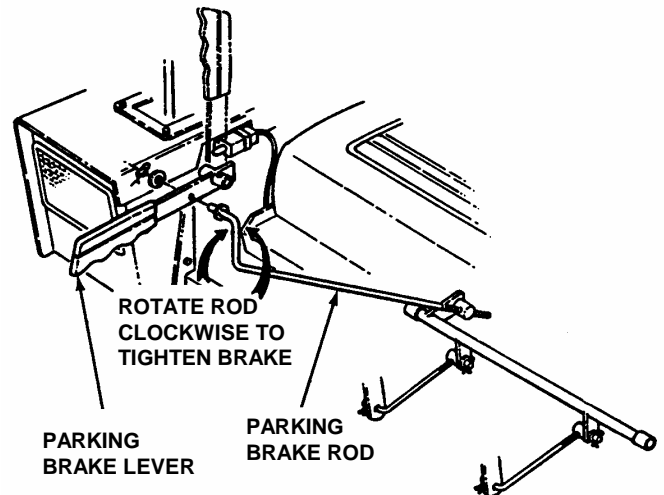

FIGURE 4.4
3. Disconnect parking brake rod from parking brake lever. See Figure 4.4.
4.3.1 The park brake can be adjusted by removing the park brake rod from the park brake lever and rotating clockwise to increase brake tension. See Figure 4.4. When properly adjusted the park brake lever should require 18 to 22 pounds force to set the brake. If this adjustment does not result in proper brake action, contact your authorized Snapper dealer for corrective action. See Figure 4.4.